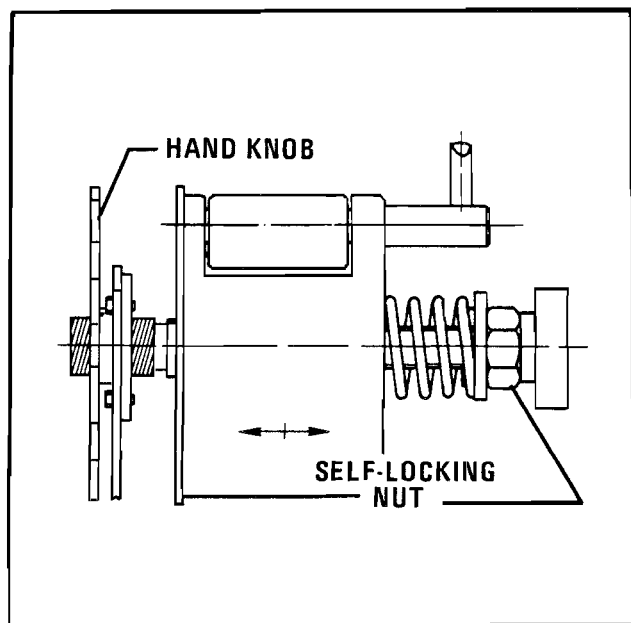

FIGURE 19 - TAPE DRUM FRICTION BRAKE
1) FRICTION BRAKE - Refer to Figure 19.
- a) Loosen hand knob (figure 19) behind tape drum on tape drum shaft.